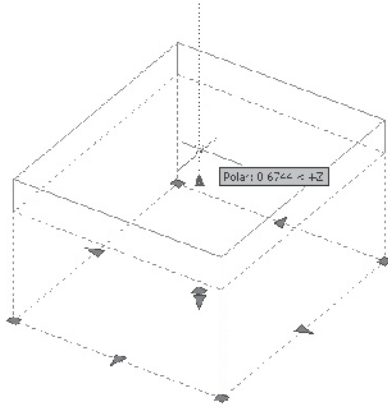

Fig. 45-4
6. Select the triangular grip on the top face of the box, as shown in Fig. 45-4, move the crosshairs upward, and pick a point to stretch the box (you may need to rotate the model using Orbit to see the grip clearly).